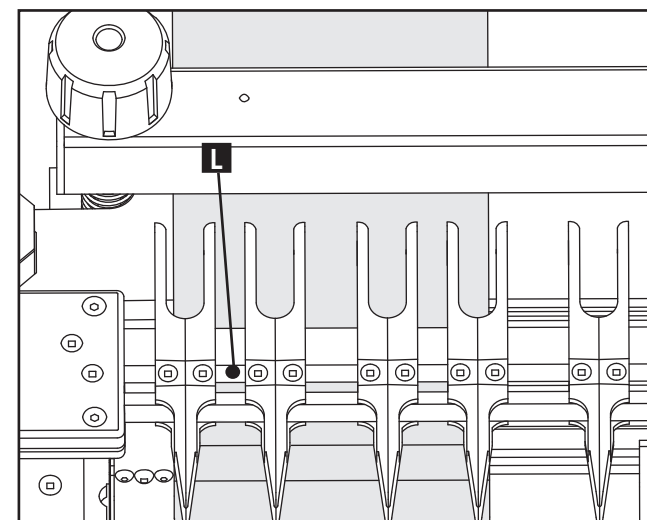

Fig. I8
4. Space the template's fingers in the desired configuration. Refer to Fig. I8 for an example, though even spacing of the fingers is not required.
NOTE: For wood greater than 3/4" thick, it is recommended the finger sets do not touch. The gap (L) Fig. I8 between each finger set should be at least 1/4". This gap assists you in making a second cut without accidentally gouging the path made by the first cut.